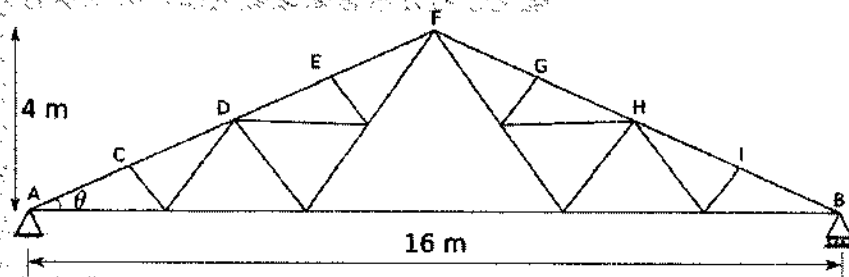

Figure 2
- B)** A column section I.S.H.B 350 @ 674 N/m carries an axial load of 1100kN. Design a suitable gusset base using riveted connection. (12)
- Q.5 A)** Determine the design forces on the panel points of a steel roof truss (as shown in Figure 2) 16 m in span and resting on brick masonry walls. The trusses are placed at 8 m c/c. The rise of truss is 1/4 of span. The roofing is of asbestos cement sheets of weight 171 N/m². The wind normal to roof is 940 N/m². (08)
- B) Find the forces in all the members of the truss shown in Figure 2. The cross sectional area and Young's Modulus of all the members are the same.